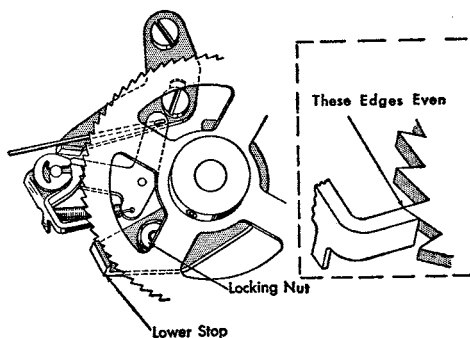

Figure 42. Backspace Ratchet Adjustment
9. BACKSPACE RATCHET. Position this on its shaft so that the top surface of the backspace pawl will be even with the point of the ratchet tooth as the pawl enters the ratchet (Figure 42).
11. LOWER PAWL STOP. Set this by partially loosening the hex head locking nut just under the ratchet wheel and tapping the stop up or down (Figure 42). Select a position for the stop where it will limit the motion of the pawl just after the desired escapement pawl drops into the rack tooth and lock the stop in place. The cam should then have about $\frac{1}{4}$ " of travel before passing its high point. If less than $\frac{1}{4}$ " travel remains on the surface of the cam, the pawl